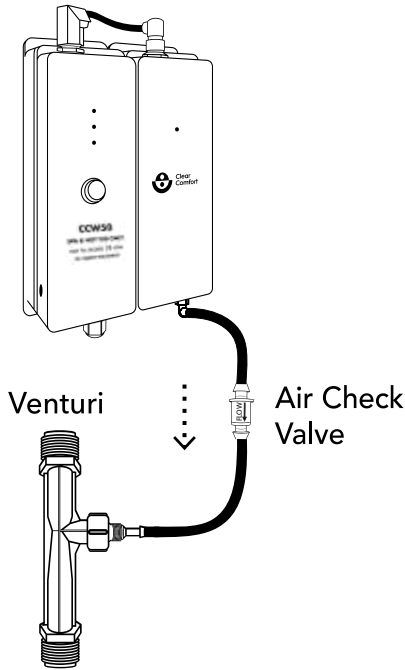

Figure 5: Venturi Connection
1. Run provided 1/4-inch tubing from the venturi injection port to the straight barb fitting. Length of tube should be less than 10 feet. Shorten and cut tubing as possible. See Figure 5.
3. Install 1/4-inch one-way air check valve (supplied) to eliminate any potential water back flow. See Figure 5.